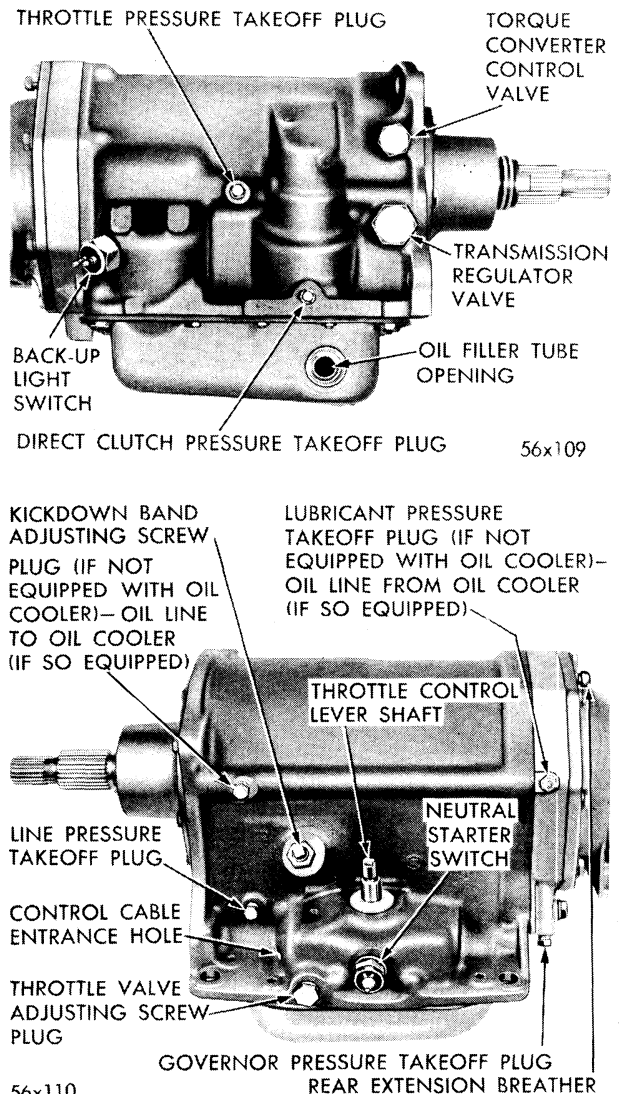

Fig. 28—Exterior Views of Transmission
Remove the 1/8 inch pipe plug from the line pressure take-off hole located on front left side of transmission case (Fig. 28). Install gauge, Tool C-3290 (300 psi.), at this point.
Remove the 1/8 inch plug from throttle pressure take-off hole located on right-hand side of transmission case (Fig. 28). Install gauge, Tool C-3292 (100 psi.), at this point.
Remove the 1/8 inch pipe plug from governor pressure take-off hole located on lower left side of output shaft support (Fig. 28). Install gauge, Tool C-3292 (100 psi.), at this point.
Remove the 1/8 inch pipe plug fitting from pressure take-off hole tapped in kickdown servo (Fig. 28) and install gauge, Tool C-3292 (100 psi.). With rear wheels free to turn, accelerate engine slowly until an upshift occurs. During upshift, the pressure gauge attached to kickdown servo should show a very rapid pressure rise from 0 to final clutch or line pressure.
Remove the ⅛ inch pipe plug fitting at the upper left side of output shaft support (Fig. 28) and install a ⅛ inch flared tube connector. Install gauge, Tool C-3292 (C-71 Model only).
With throttle linkage properly adjusted and tachometer attached, start engine and recheck idle setting (475 to 500 r.p.m.) with transmission in neutral and hand brake set. Stop engine and raise vehicle on hoist. Remove throttle oil pressure take-off plug (⅛ inch pipe) located between the reverse and kickdown servos on the right side of transmission (Fig. 28). Connect 100 psi. pressure gauge, Tool C-3292. Start engine and push in Drive (D) push button. Oil pressure should read 13 to 15 psi. If pressure is not within specifications, adjust as follows:
Transmission band adjustments can be made under the vehicle. Using a $\frac{3}{4}$ inch open end wrench, loosen the locknut (Fig. 28). Check freeness of adjusting screw in transmission case. If it is free, set the click device on the small inch-pound torque wrench, Tool C-3380, for 72 inch-pounds. Install a $\frac{3}{8}$ inch 12 point socket ($\frac{3}{8}$ drive) on wrench. Tighten adjusting screw to specified torque. With chalk, mark a reference point on adjusting screw and transmission case. Using extreme care, back adjusting screw out exactly $2\frac{3}{4}$ turns. Hold adjusting screw stationary with a small wrench and tighten the locknut securely. Use care in performing this operation to insure correct adjustment, otherwise, serious damage will occur when transmission is in operation.